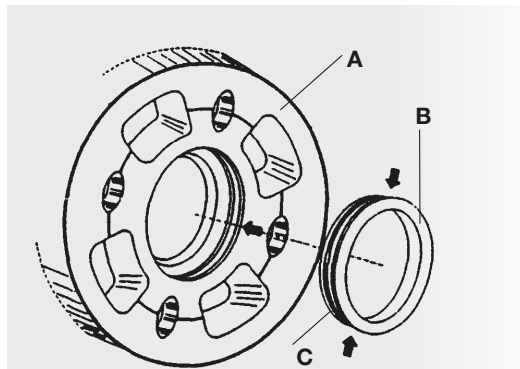

Fig. 4 - Installation of centering rings
- Place the centering ring (B) on the wheel hub (A) by pressing the retaining snap ring (C) with your fingers (C) (fig.4)
Check the proper insertion of the retaining snap ring (C) in the corresponding seat (D) as determined by the locking of the centering ring is properly locked in the wheel hub (Fig. 4).